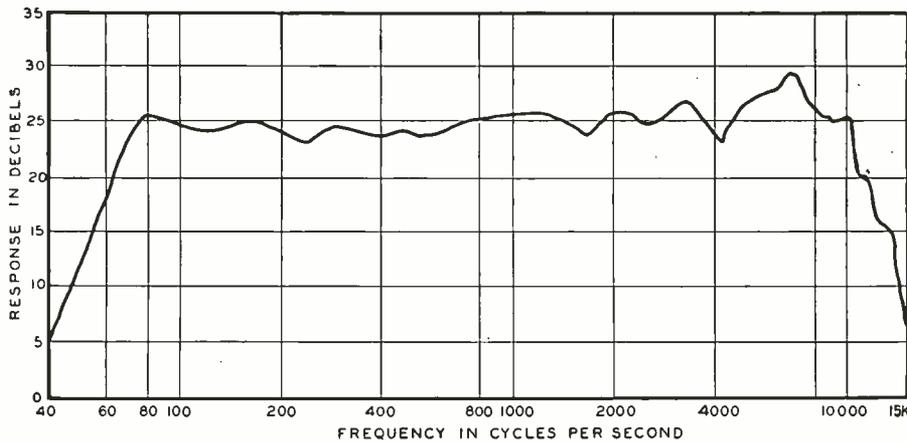
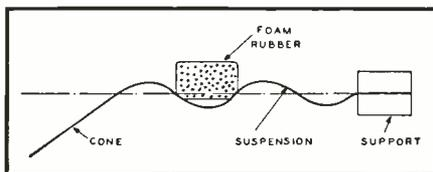

Fig. 4. Response frequency characteristic of the RCA Type SL-8 loudspeaker.
Fig. 6. Suspension with a rubber damper.
**Response Frequency Characteristics:** The response frequency characteristic depicts the sound pressure output of the loudspeaker at some specified observation point, usually on the axis, as a function of the frequency. Of all the performance characteristics of a speaker, the response frequency characteristic is the most useful and important because it conveys the most information. The response frequency characteristic of the RCA Type SL-8 is shown in Fig. 4. It will be seen that response covers a very wide frequency range for a loudspeaker of this size.
In the past, the procedure has been to coat the suspension with some highly viscous material, such as viscoloid, thereby providing damping which reduces the amplitude at resonance. In this way, the response is smooth and free from the peak and the dip. The objection to the use of viscous materials is that these materials tend to dry out, with the result that the damping efficiency is lost. The vibration can be controlled and the effects of any resonance reduced to a negligible amount by means of a special rubber damping ring, as shown in Fig. 6. The curve of Fig. 7, taken without the damping ring, can be compared with that of Fig. 4 taken with the damping ring. It will be seen that the response frequency characteristic without the damping ring exhibits a peak and a dip at 850 and 1050 cycles respectively. Furthermore, the high-frequency response is not as smooth as that with the damping ring. This shows that the damping ring provides a better acoustical impedance termination for the cone. High-frequency vibrations started at the voice coil flow out in the cone, then from the cone into the suspension and damping ring, and are absorbed in this system. As a consequence, standing waves in the cone, which would lead to a ragged response frequency characteristic, are reduced to a negligible quantity.